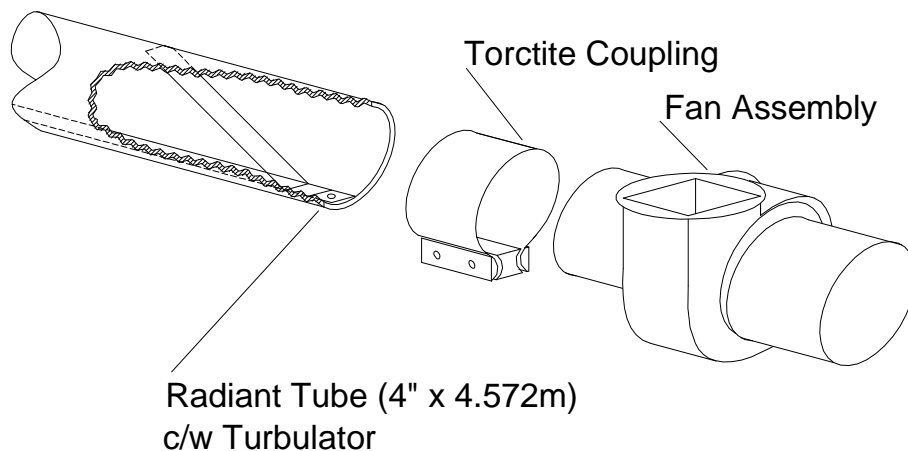

Fig 25
**IMPORTANT:** ensure that the turbulator is positioned adjacent to the Fan Assy and orientated as shown in Fig. 25. Failure to assemble the Radiant Tubes with their welded seams facing away from the reflector will void the manufacturers warranty.
- 4.8.4 Place a second Torctite Coupling over the end of the Radiant Tube Assembly, where the turbulator is secured to the tube, (see Fig 24 and Fig 25) ensuring that it engages fully, up to the stop. Assemble the Fan Assembly to the Radiant Tube, ensuring that it engages fully into the Torctite Coupling (up to the stop) and is positioned with the fan outlet horizontal for flueless applications or either horizontal or vertical (facing upwards) for flued applications. Tighten the nuts of the Torctite Coupling to secure the Fan Assembly to the Radiant Tube, taking care to support the Fan Assembly in line with the axis of the tube.